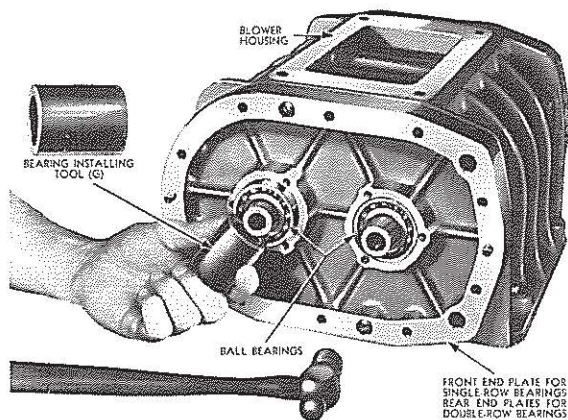

FIG. 14
- b. Using tool (G) shown in Fig. 14, tap bearings into end plates.